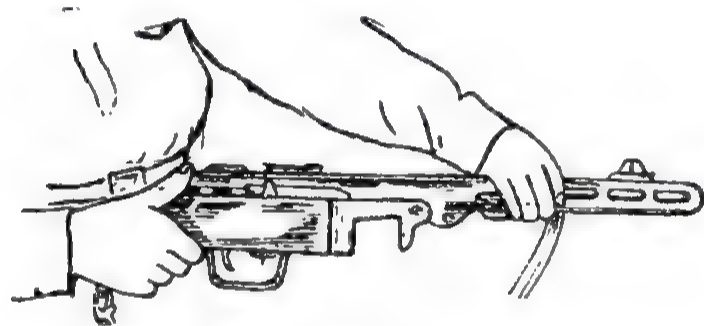

Figure 39. Opening the bolt cover – position 1.
2. **Open the bolt cover** (Figure 39). With your right thumb, push the bolt cover latch forward and with your left hand press down on the fore-part of the barrel's jacket breaking open the cover and pushing it down (Figure 40)